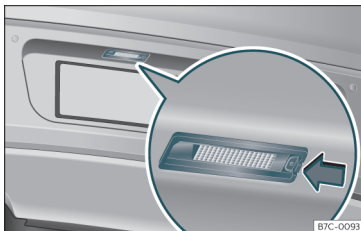

Fig. 95 In the rear bumper: number plate light.
1. Press the number plate light in the direction of the arrow »» **Fig. 95**.